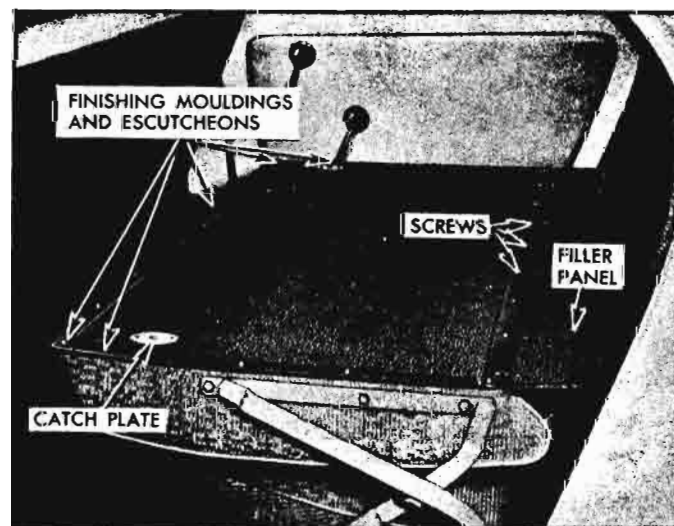

Fig. 10-76—Station Sedan Folding Rear Seat Back
1. Remove screws securing catch plate to seat back panel (fig. 10-76) and remove catch plate and catch.
1. Remove screws securing corner escutcheons and upper and side finishing mouldings and remove escutcheons and mouldings (fig. 10-76). Corner escutcheons must be removed prior to removing side and upper moldings.
3. Remove screws (fig. 10-76) securing assembly to rear seat back frame and remove assembly.
2. At each side of seat, remove screws securing rear folding seat back mounting support link assembly to folding seat back assembly (see Figure 10-76).